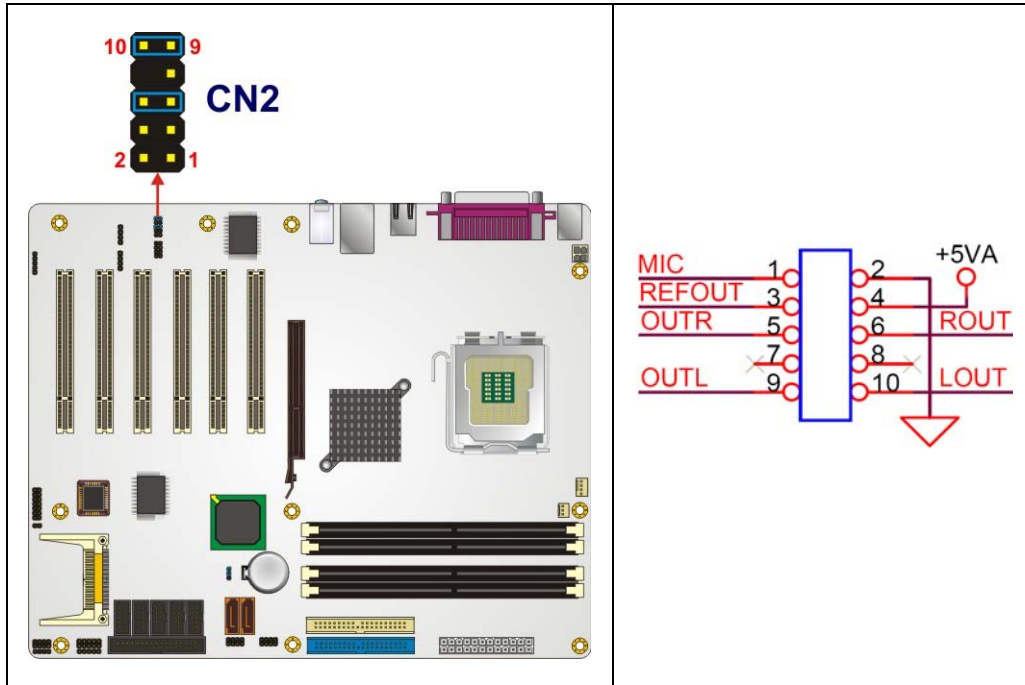

Figure 4-12: Front Panel Audio Connector Pinout Locations
- CN Location:** See **Figure 4-12**